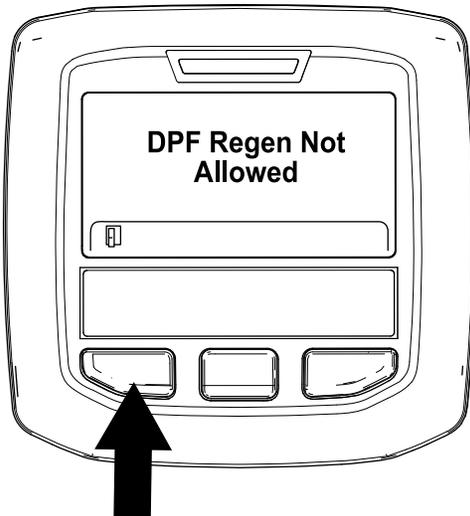

Figure 49
- If the regeneration process is not allowed by the engine computer, the “DPF Regen Not Allowed” message displays in the InfoCenter (Figure 49). Press the left button to exit to the home screen